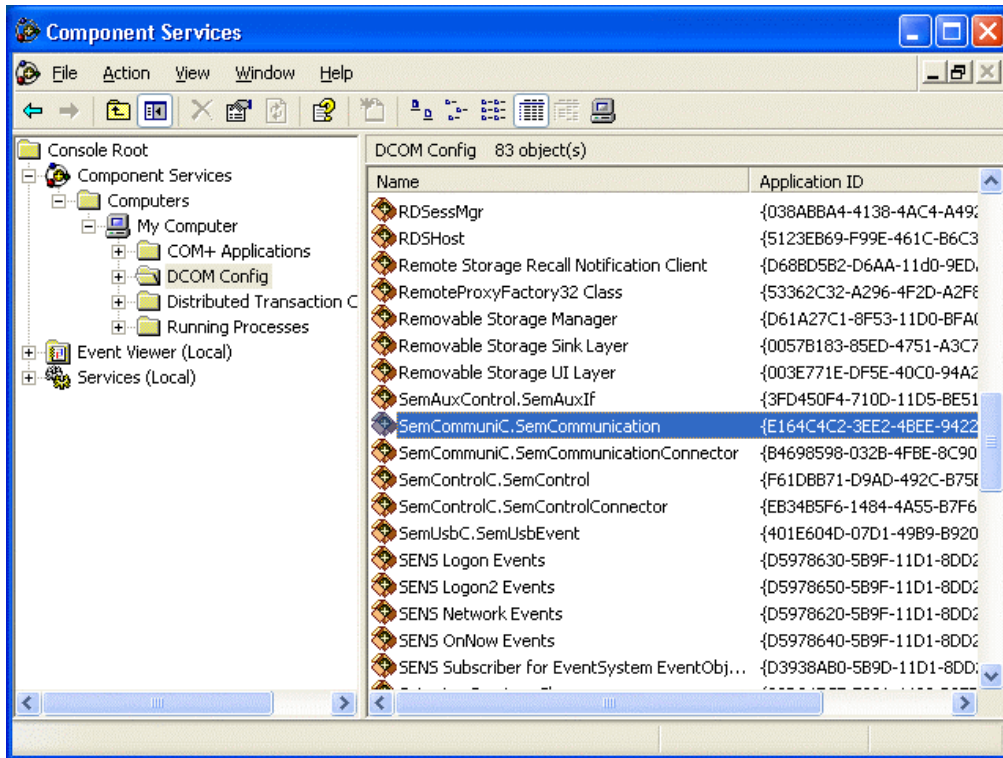

Fig. 6.3-32 Component Services Window
26. Right Mouse Click on **SemCommuniC.SemCommunication** under **DCOM Config** items and select **Property** from Action menu. Fig. 6.3-32 is shown in **Detail View**. (Can be selected via View Menu and then Details.)